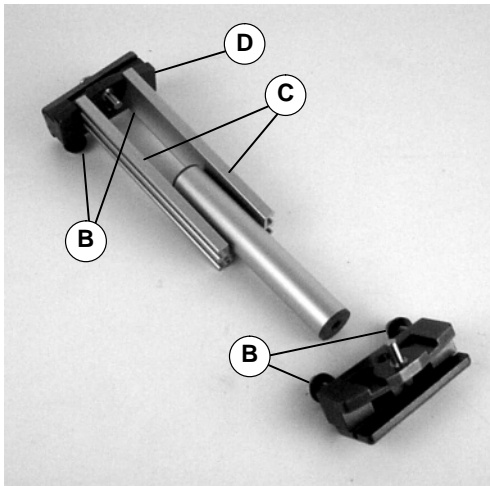

Figure 1
1. Typical Components (Figure 1)